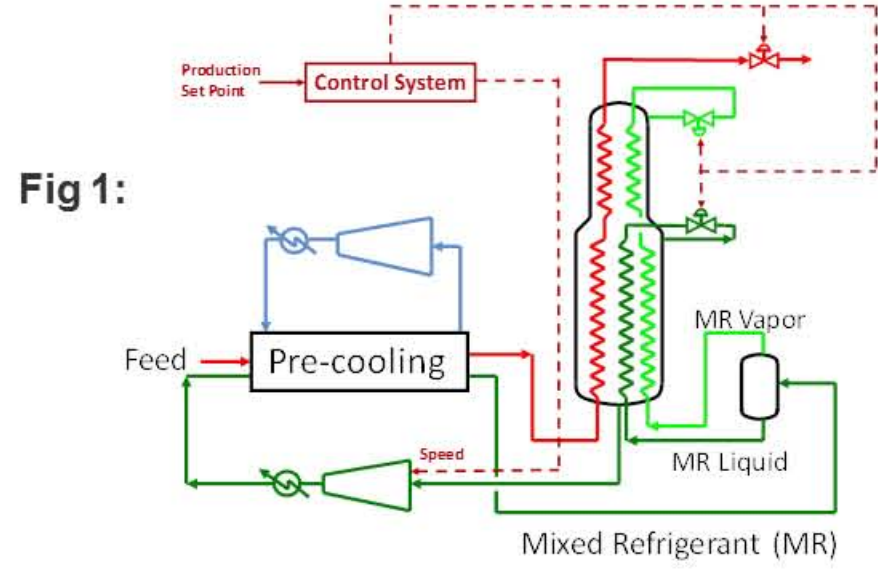

Fig 1:
This poster identifies 3 mistakes sometimes made in controlling the mixed refrigerant (MR) compressor in an LNG Precooled Liquefaction Process (Fig 1 below) and how to avoid them.